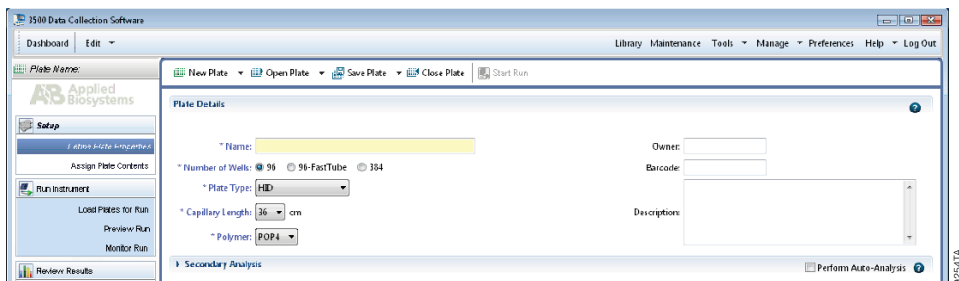

Figure 8. Defining plate properties.
- To create a New Plate (Figure 8), navigate to the Library, and from the Manage menu, select **Plates**, then **Create**.
- Assign a descriptive plate name. Select the plate type **HID** from the drop-down menu (Figure 8).